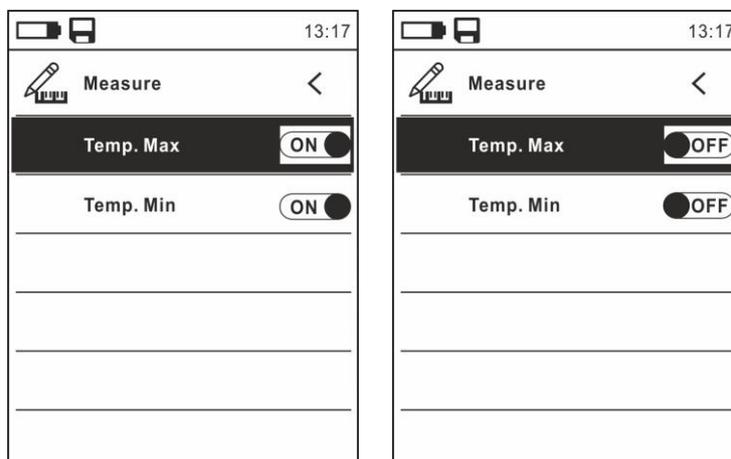

Fig. 11: Measurement Menu
9. Select item “Measure” and press key or **▶** to enable activation/deactivation of the cursors associated with the “hottest” or “coldest” spots in the thermographic image (see Fig. 11).